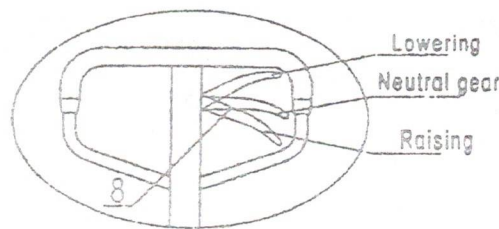

Fig. 4
- 3.7 Try shaking Handle and operate Trigger (8) at different gears to see whether the truck works well at raising, neutral gear and lowering. See Fig.4.